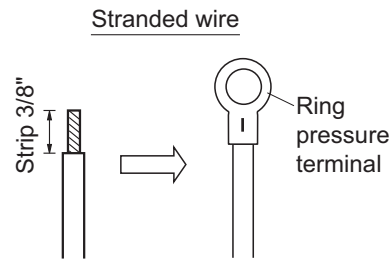
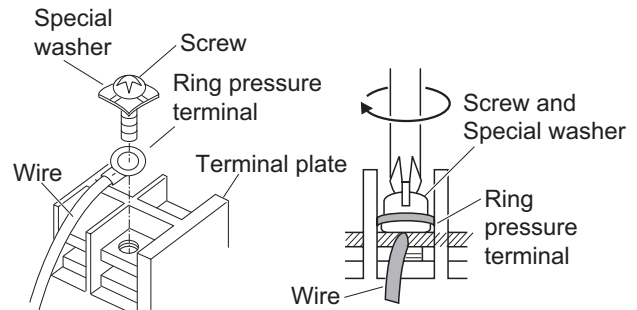

Fig. 2-4
Fig. 2-5
- (1) Cut the wire end with cutting pliers, then strip the insulation to expose the stranded wiring approx. 3/8 in. and tightly twist the wire ends. (Fig. 2-4)
- (2) Using a Phillips head screwdriver, remove the terminal screw(s) on the terminal plate.
- (3) Using a ring connector fastener or pliers, securely clamp each stripped wire end with a ring pressure terminal.
- (4) Place the ring pressure terminal, and replace and tighten the removed terminal screw using a screwdriver. (Fig. 2-5)